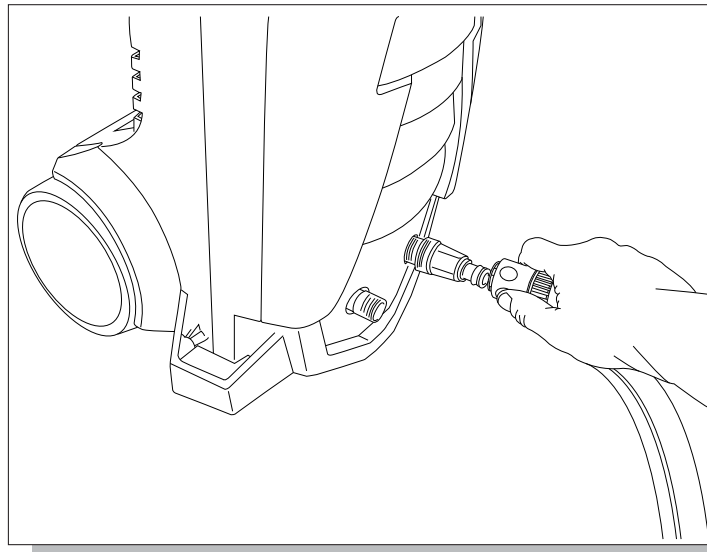

Fig. 17
- First, remove the plastic shipping cover on the water inlet on the front of the power washer on the right side. Hand tight is fine. Slide the blue/black collar onto the clear adapter (**Fig. 17**), it will “click” into place.